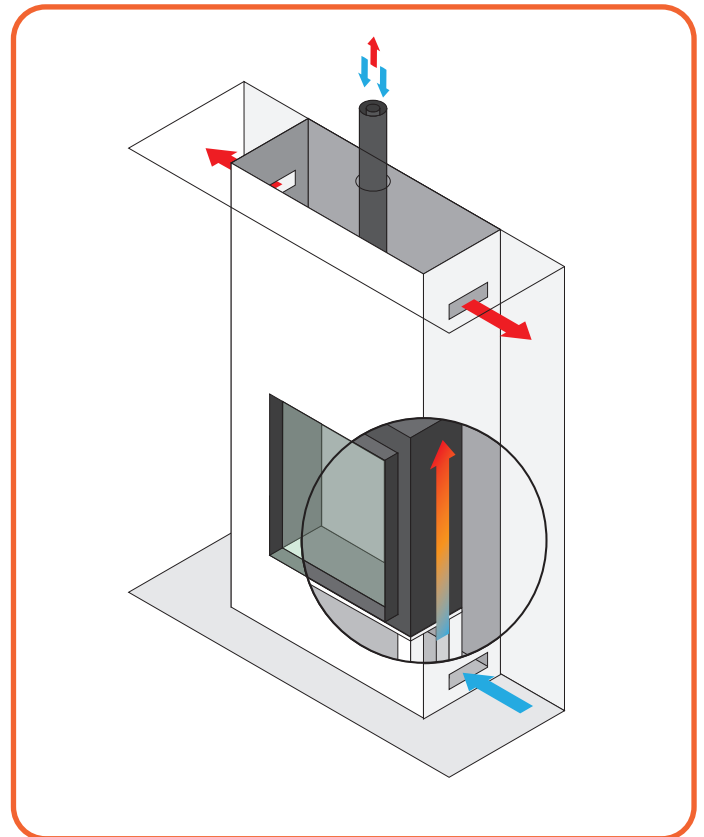
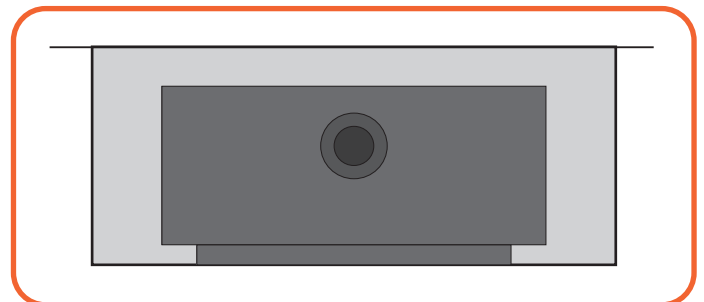

Figure 6.3 - Non combustible material enclosure
Figure 6.4 - Non combustible material enclosure top view
6.4.3 Assembly regulations with non-combustible materials (Figure 6.3 and Figure 6.4)